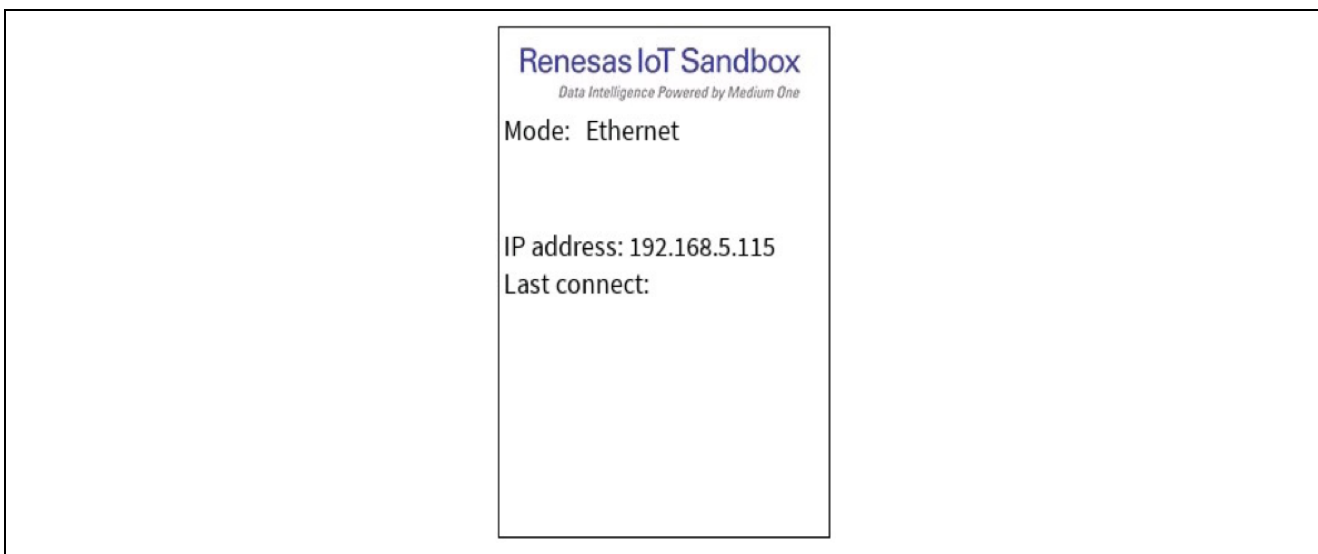

Figure 3 Ethernet mode
- When you see the screen as shown in Figure 3, connect to the IP address printed on the screen using the browser on your computer. Make sure your computer is on the same network as the board. This will connect you to the provisioning page of the board to set up the IoT Sandbox credentials. **Note: Keep a copy of your activation email readily available.**